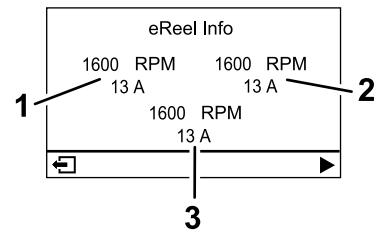

Figure 24
- **eReel motor screen (Figure 24):** shows the speed and current of each cutting-unit motor.